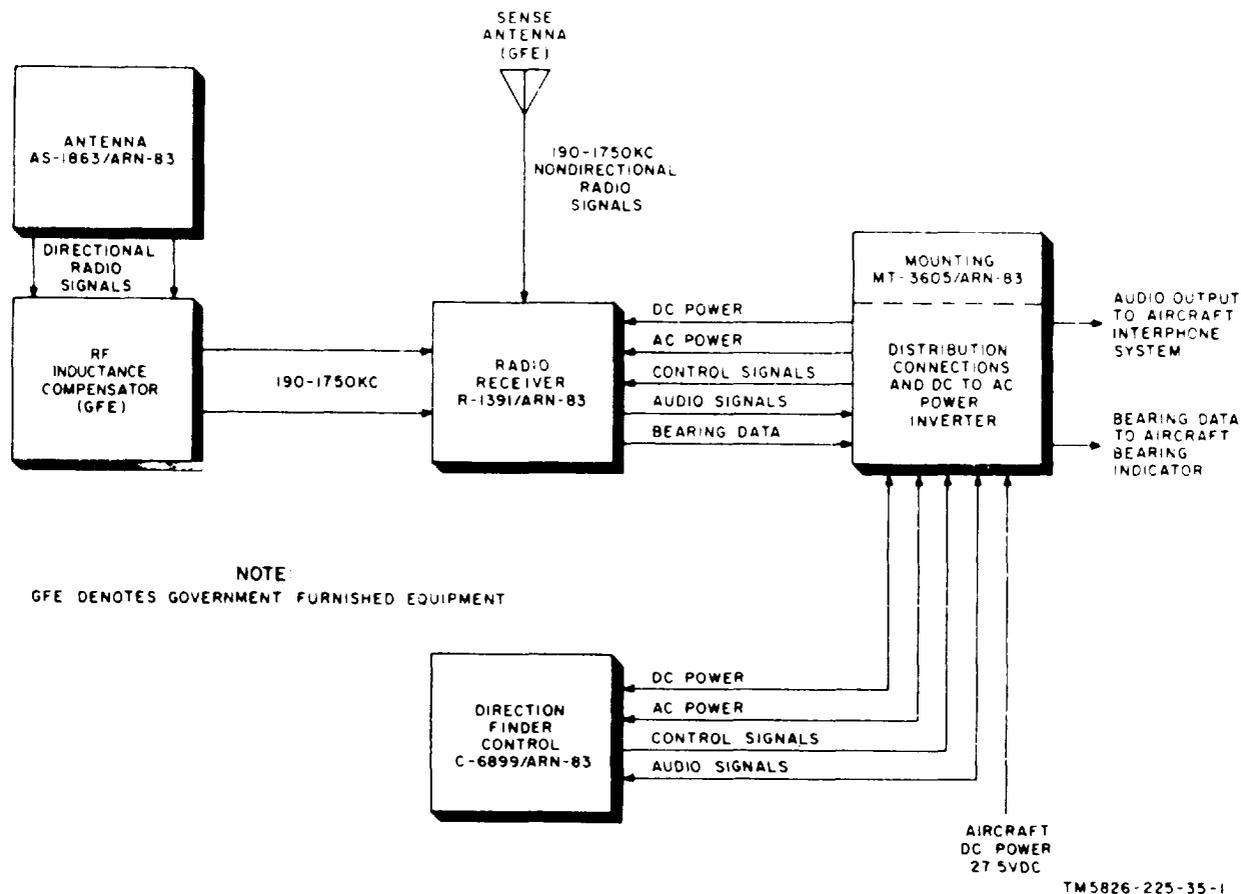

Figure 1-1. Direction Finder Set AN/ARN-83, system block diagram.
**u.** Direction Finder Set AN/ARN-83 includes the components shown in figure 1-1. The general direction of ac power, dc power, and signal flow is also shown. Antenna AS-1863/ARN-83 (fixed loop antenna) contains two pairs of loop antennas displaced 90 degrees. One pair of loops is sensitive to radio signals parallel to the aircraft longitudinal axis, and the other pair of loops is sensitive to signals parallel to the aircraft lateral axis. The two-loop output signals are applied to Radio Receiver R-1391/ARN-83 through an RF inductance